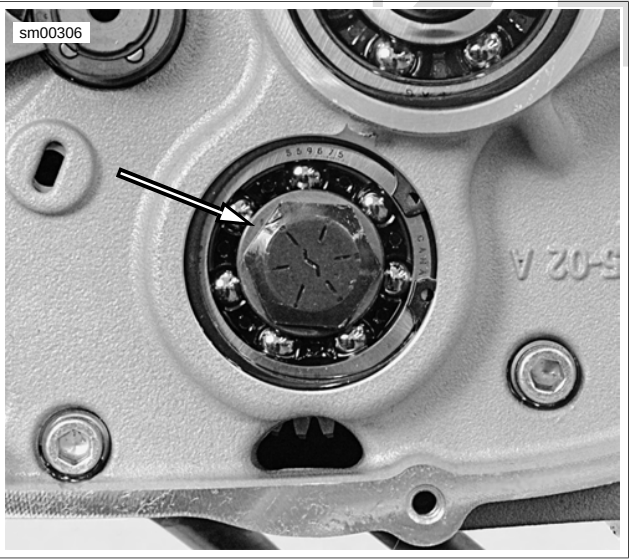

Figure 6-46. Hex Fastener Countershaft Retainer
8. See Figure 6-46. Place transmission in first gear. Remove hex fastener.